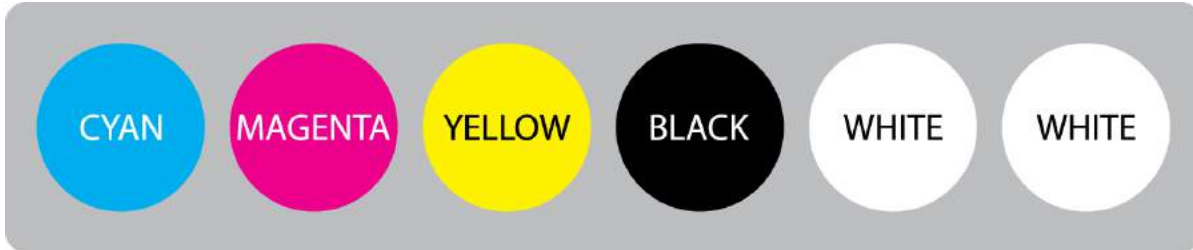

Figure 7.5: Ink Bay Cartridge Order
- Once the LCD control panel has indicated a cartridge is low or empty replace using the correct color into the correct ink bay slot. Cartridge color assignment is located above the ink bay with a matching colored circle. (Figure 7.5)